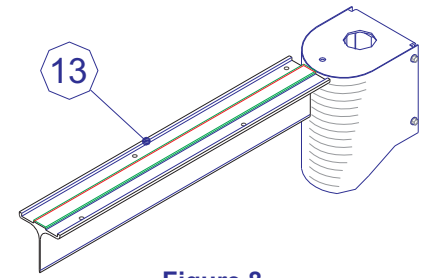

Figure 8
The Top Seal (13) is cut to length at the Factory (Some Trimming May Still Be Required). Remove the Paper from the Double Faced Tape on the back side of the Top Seal. Place the Top Seal in the center of the header with the Taped Side Up, See Figure 8. Top Seal must fit between the Hinge Seals on Double Doors and between the Hinge Seal and opposite Jamb on Single Doors. Once the Top Seal is placed in the desired position, insert the 24 x 1 1/4" TEK Screws (16) and tighten securely. You may wish to drill pilot holes, use top seal as a template.